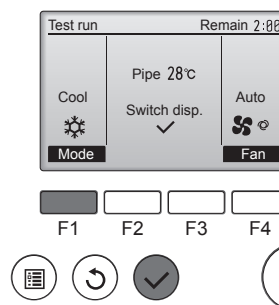

Fig. 5-5
- ① Press the **[F1]** button to go through the operation modes in the order of "Cool" and "Heat". (Fig. 5-5)